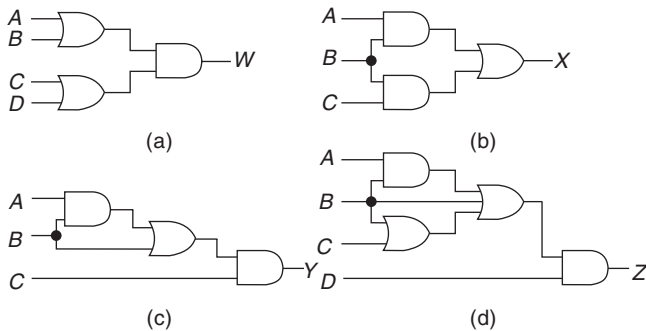

Fig. 5.14
5.38 Write the Boolean equation for each of the logic circuits shown in Fig. 5.14.